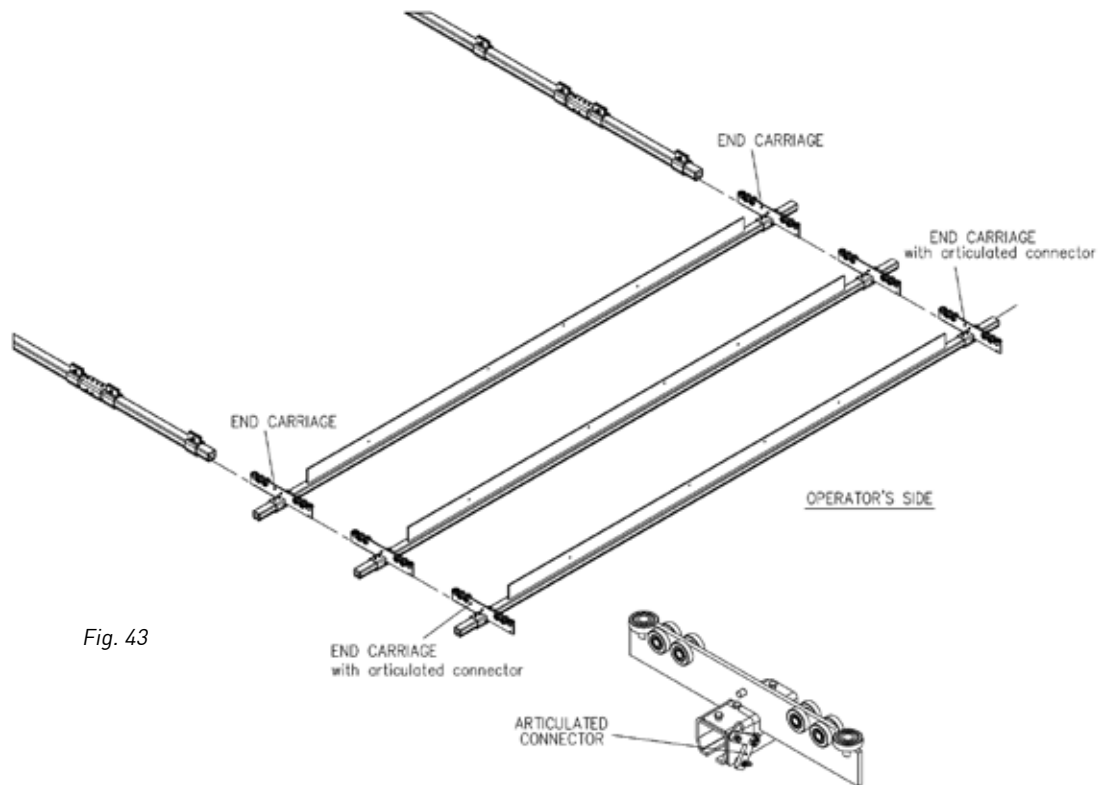

Fig. 43
Step 3 : Lift and insert each reinforced bridge profile with the carriages into the runway tracks. (fig. 43) Secure all end stops of the runway tracks into position, to ensure the bridge profiles remain safely inside the tracks.
The end carriages carrying the articulated wire rope connector must be installed on the operator's side, the side with the wagon handling system. (fig. 43)